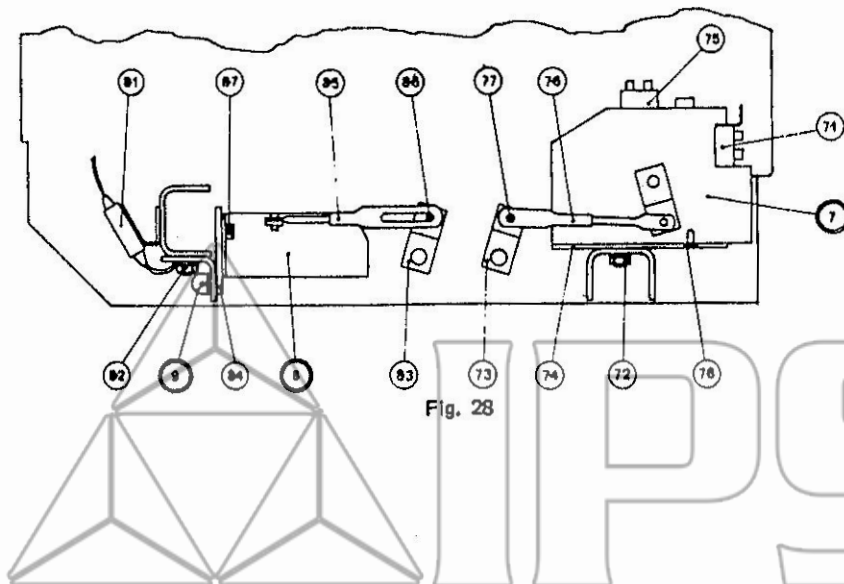

Fig. 28
E. Undervoltage and Shunt Trip Release (Fig. 28).